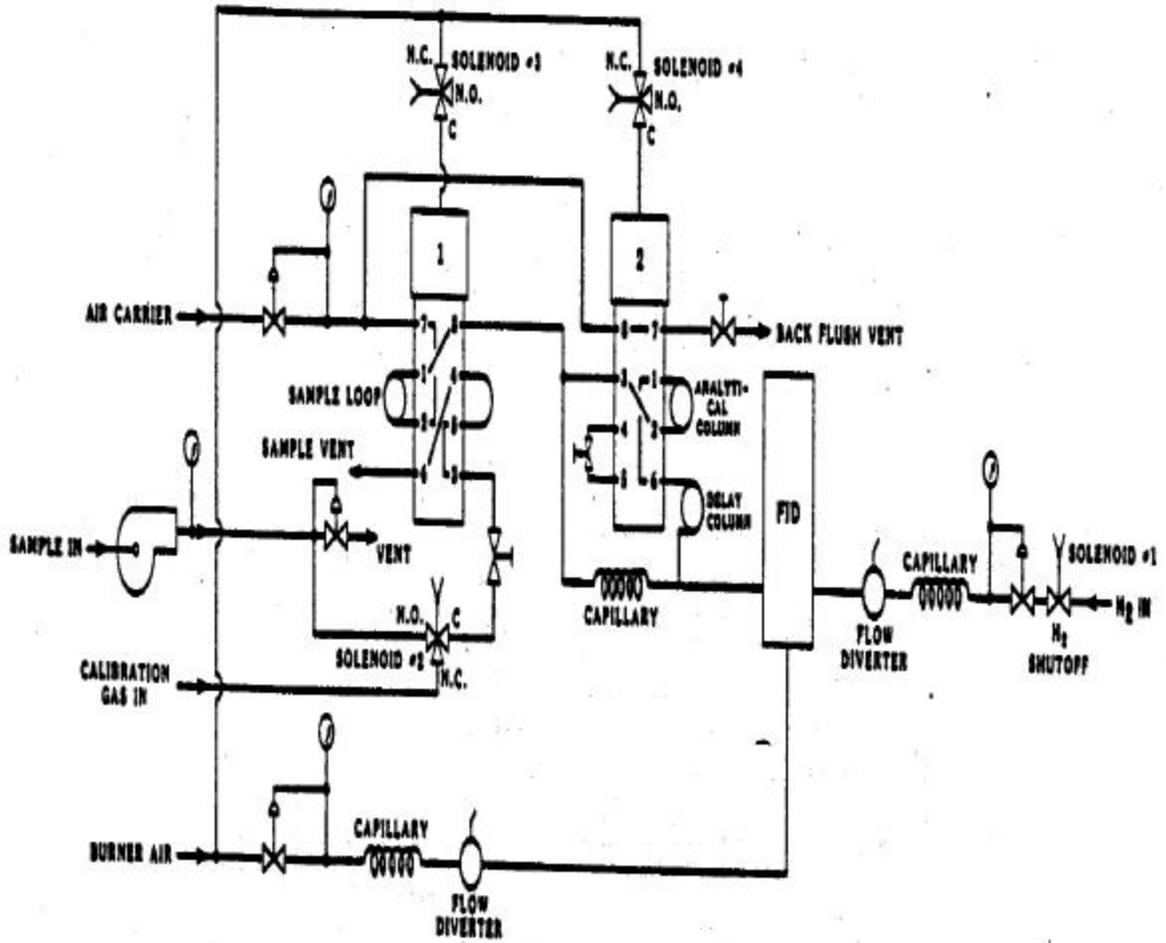
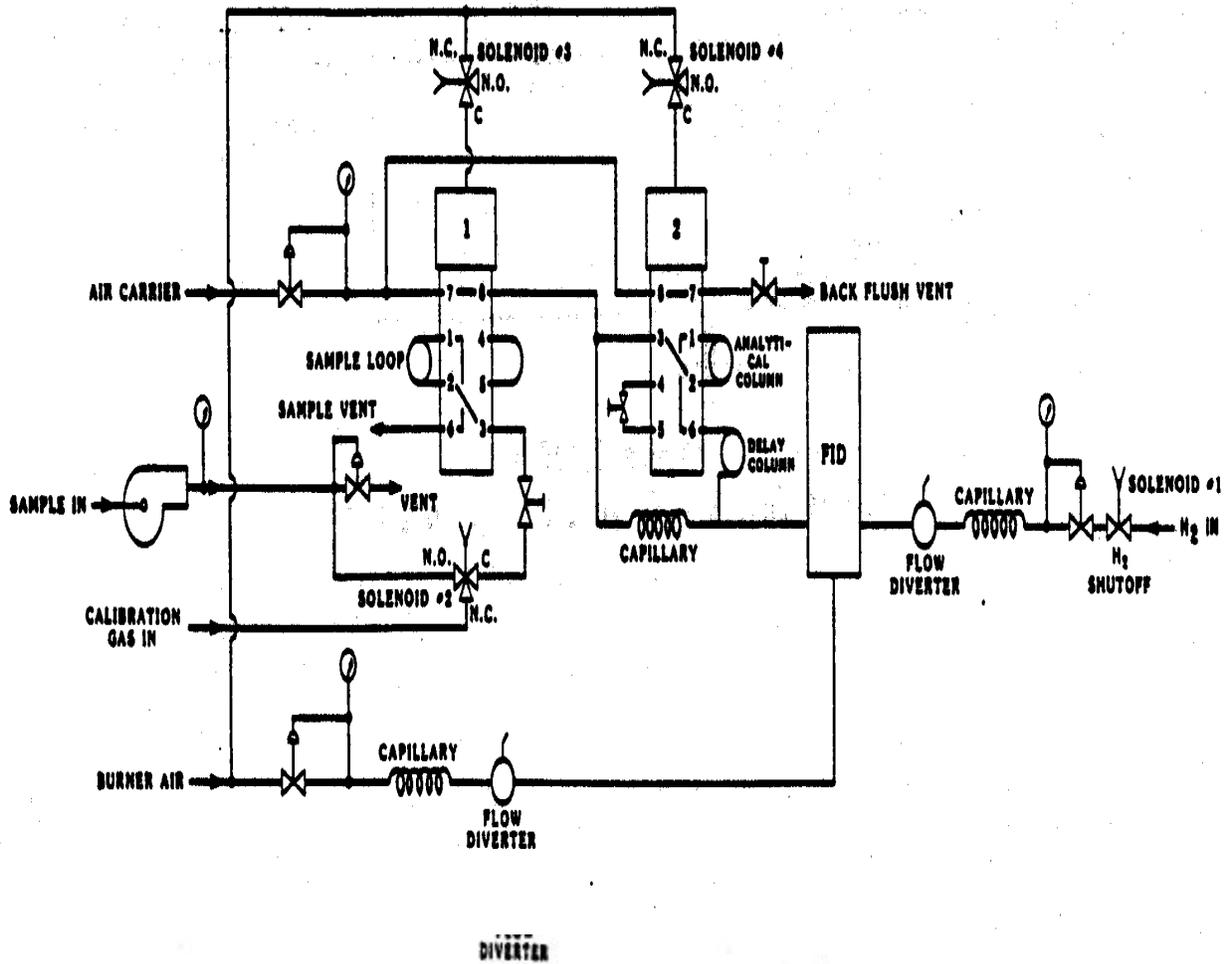
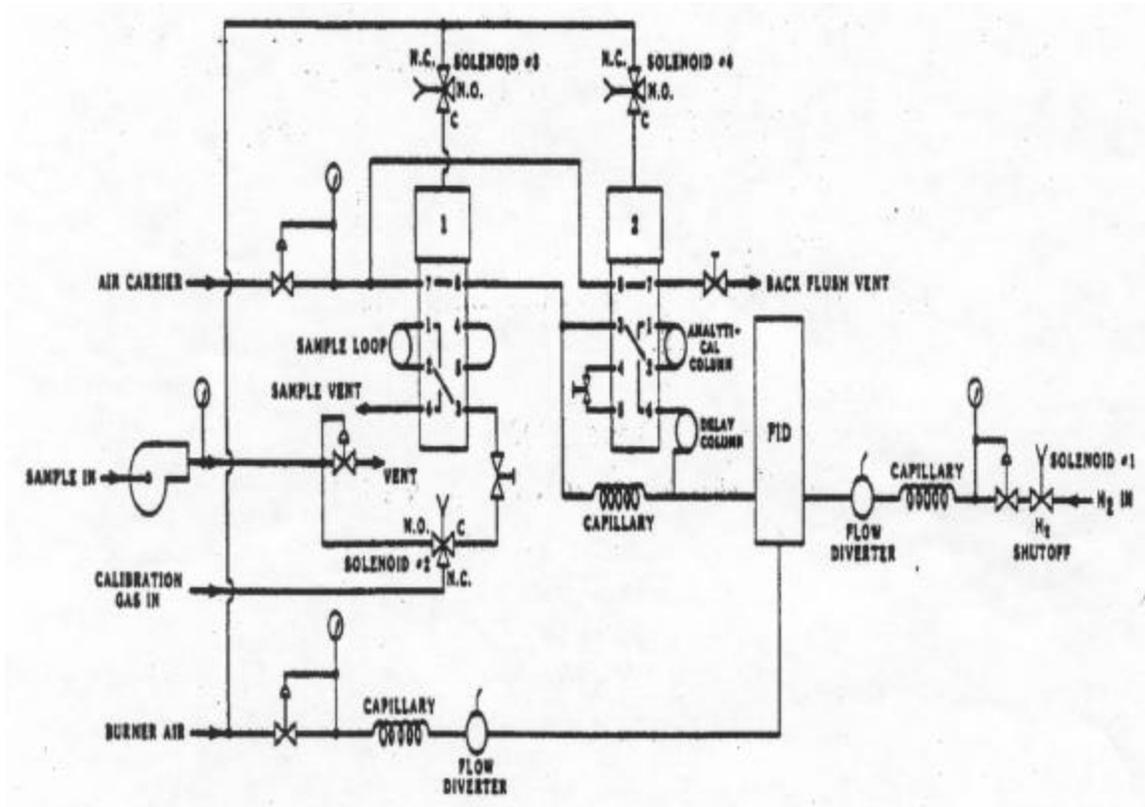

Figure J.1.0.1
Figure J.1.0.2
Figure J.1.0.3
The cycle begins with the actuating of valve 1 causing the sample loop to be purged by dry carrier air (Figure J.1.0.1). The sample volume (approximately 8cc) is moved by the carrier air to a tee where the sample is split into THC and CH_4 sample volumes. The THC sample volume moves through a flow balancing capillary to the FID whose output at any time is proportional to the carbon atoms present. The CH_4 sample volume moves through valve 2 (off position) to the analytical column which separates the heavier hydrocarbons from the methane. The methane sample volume flows through a delay column to the FID. After the methane component is analyzed, the AUTO ZERO mode occurs. The AUTO ZERO measures the baseline voltage and subtracts it from the FID voltage output during the THC and CH_4 modes of the following analytical cycle. After the AUTO ZERO, valve 1 is turned off and valve 2 is turned on (Figure J.1.0.2). In the valve 1 off position, the sample loop is purged with sample air. In the valve 2 on position the analytical column is backflushed with clean air to remove the heavier hydrocarbons that were separated from the methane. At the end of the cycle, valve 2 is turned off in preparation for the start of a new cycle (Figure J.1.0.3).
4. Baseline - Record the baseline electrometer meter reading while valve 2 is on and using normal supply air. If the supply air is not a certified zero air compressed gas cylinder, disconnect the supply air and connect a certified zero air compressed gas cylinder with a stainless steel regulator (a three-way brass valve simplifies this check and may be requested from the Sacramento Support Facility). Record the baseline while the supply air is a certified zero air compressed gas cylinder. An increase in the baseline reading indicates contaminated supply air (contact your supervisor for corrective action). See Figure J.1.0.2 for three-way valve configuration. Switch back to normal supply air.